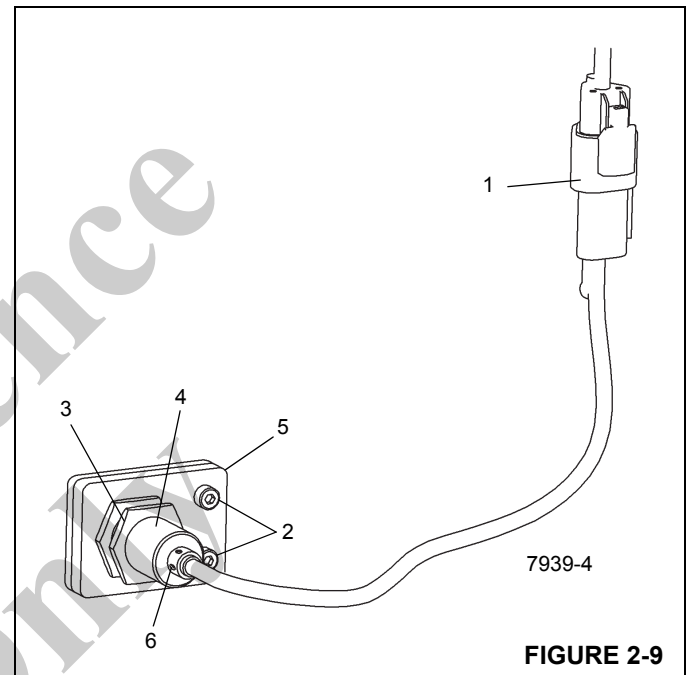

FIGURE 2-9
1. Disconnect electrical connector (1, Figure 2-9) at switch.
2. Remove the two screws (2, Figure 2-9) securing the mounting bracket/switch assembly to the stabilizer box.
3. Loosen jam nut (3, Figure 2-9) securing switch (4) to mounting bracket; remove switch.
2. Thread switch (4, Figure 2-9) into mounting bracket (5) so that face of switch protrudes 10 mm through bracket.
3. Using two screws (2, Figure 2-9), secure mounting bracket/switch assembly to stabilizer box.
5. Tighten jam nut (3, Figure 2-9) on switch.
6. Connect electrical connector (1, Figure 2-9) to switch.
- With power on and stabilizer beam fully extended, ensure LED (6, Figure 2-9) on proximity switch illuminates. Retract stabilizer beam and ensure LED is not illuminated.